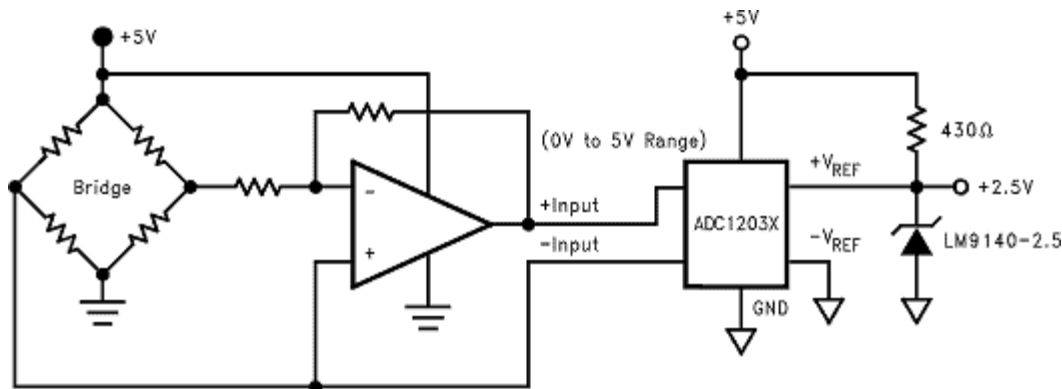

Figure 34. DC Coupled ADC Driver
The LMP201x is a great choice for an amplifier stage immediately before the input of an ADC (Analog-to-Digital Converter). See Figure 34.
- Rail-to-Rail output swing maximizes the ADC dynamic range in 5-Volt single-supply converter applications. Below is a typical block diagram showing the LMP201x used as an ADC amplifier (Figure 34).